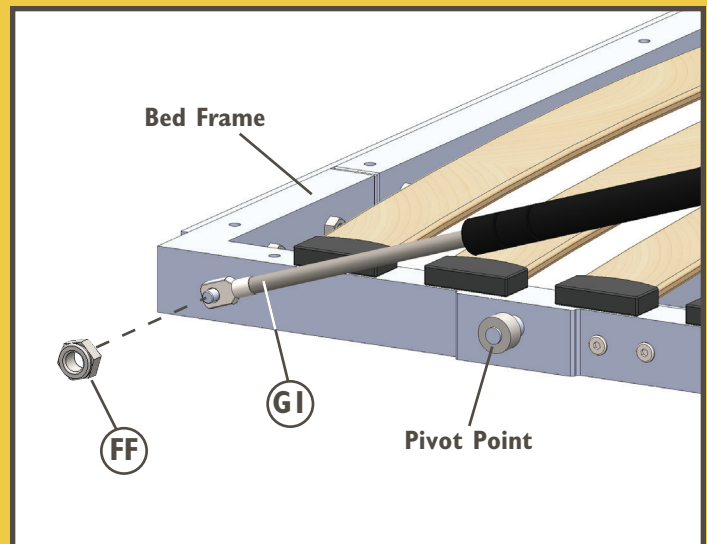
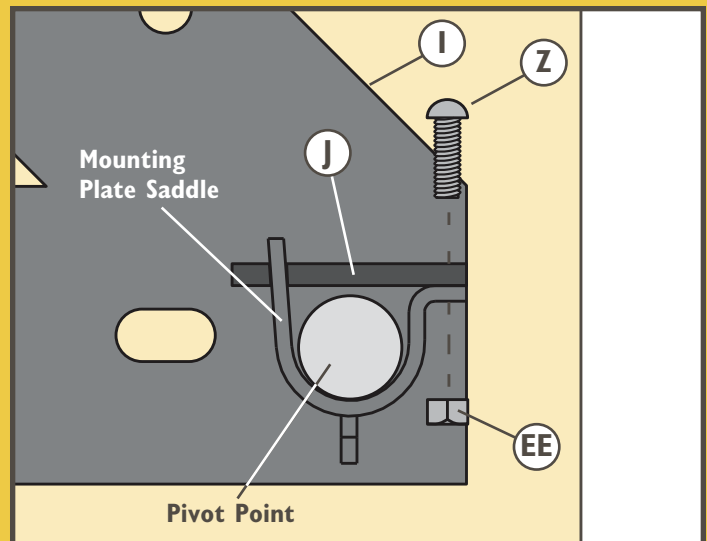

Fig. 10
Fig. 11
1. Attach the Pistons (G1) to the bed frame on each side by fitting the opening on the end with the internal rod onto the threaded stud beyond the pivot point at the head of the frame. Secure the Pistons to the frame with M8 Lock Nuts (FF). **Fig. 10.**
2. Install the frame in the Mounting Plates (I) by positioning the bearing of the pivot point on the Left/Right Sides of the Frame (A) in the saddle of each plate.
3. Secure the bearing on each side in place with a Saddle Locking Plate (J). The tab at the front of the plate fits into an opening in the saddle, and the plate is secured to the saddle with an M5 x 15mm Screw (Z) and M5 Nut (EE). **Fig. 11.** Tighten the Screw fully.